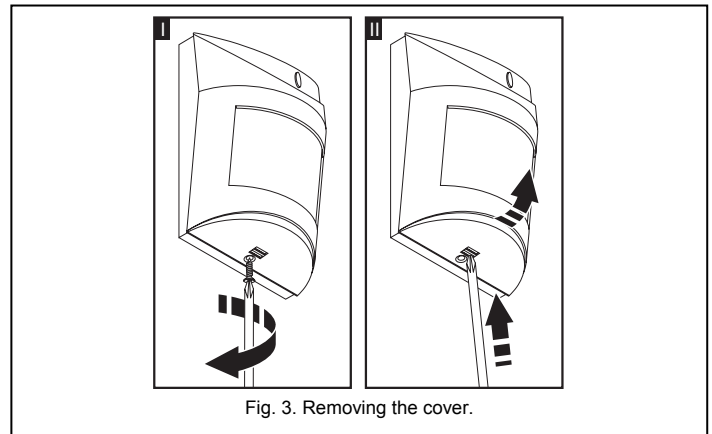

Fig. 3. Removing the cover.
1. Open the housing as shown on Fig. 3 and disconnect the LED backlight from its socket on electronics board.